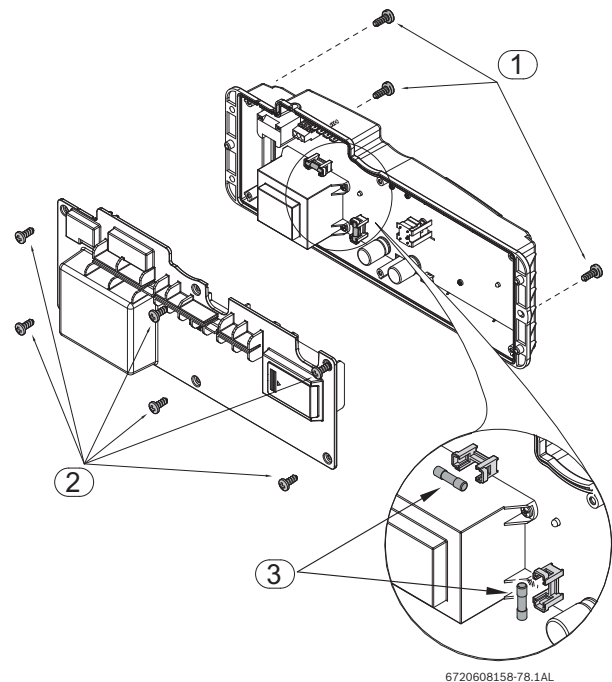

Fig. 39 Fuses position
- Remove the six screws from the back cover of the control unit, see Fig. 39, pos. 2.
- Check the fuses in the printed circuit board, see Fig. 39, pos. 3.